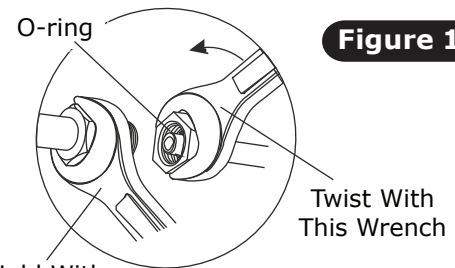
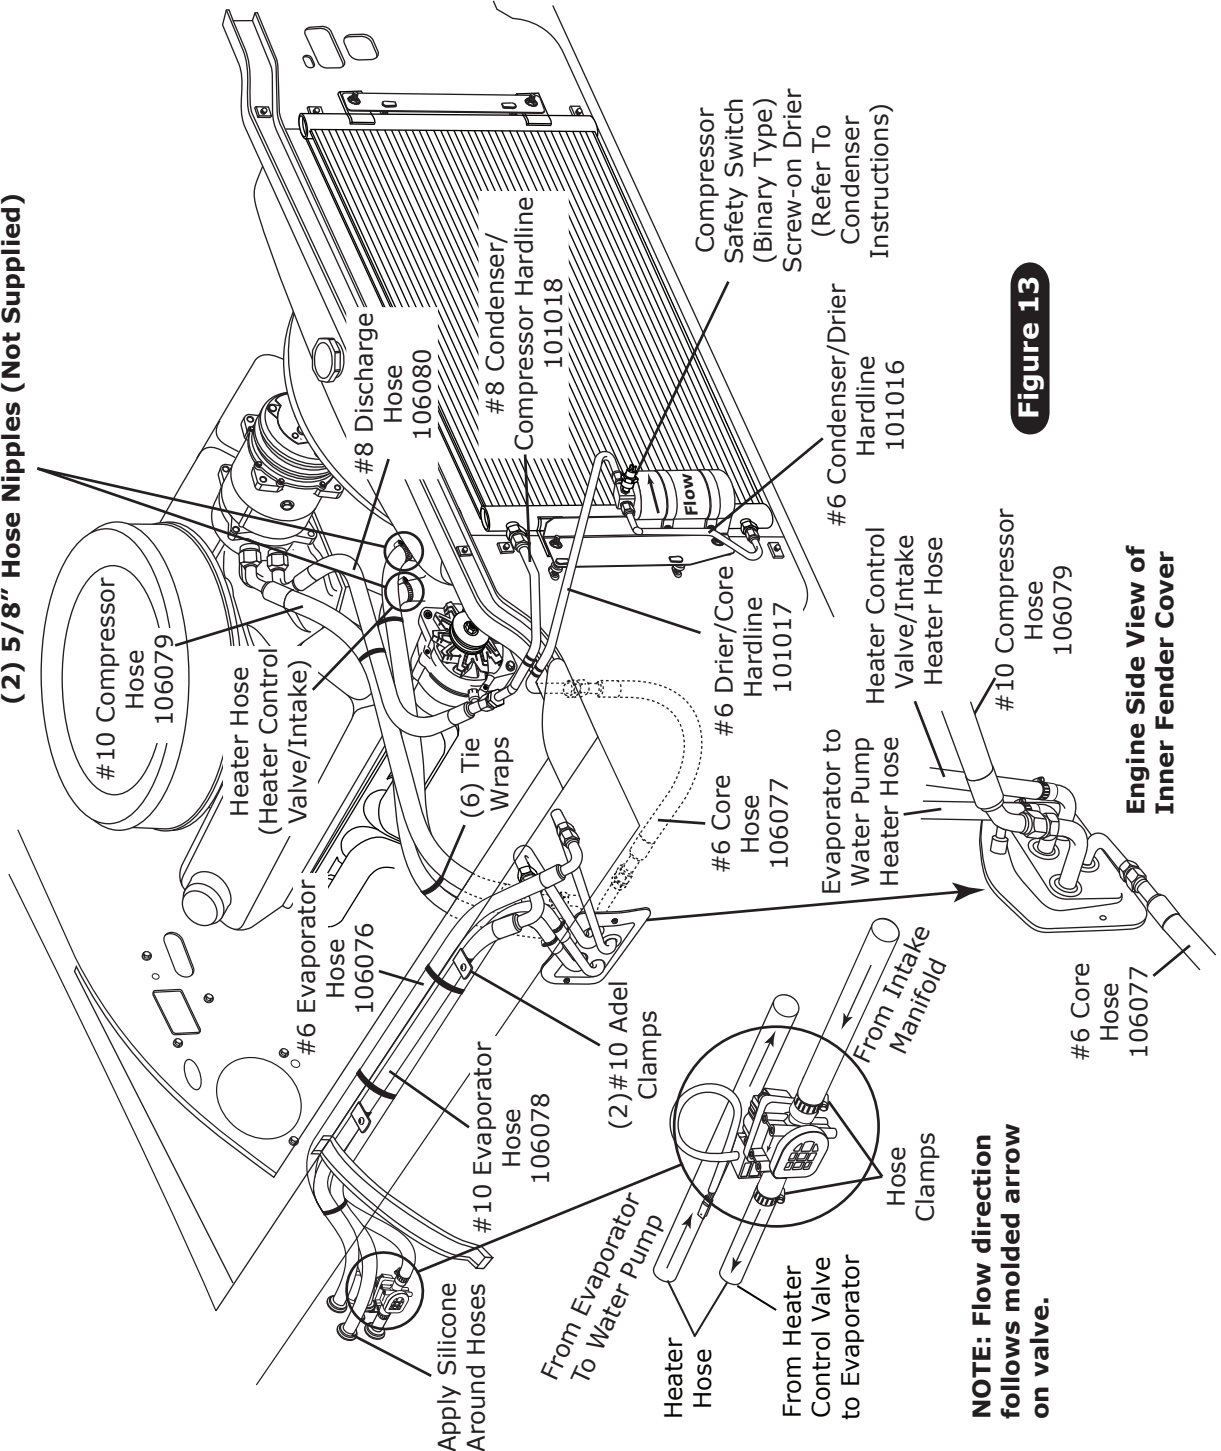

Figure 12
Figure 13
1. On a workbench, install evaporator rear bracket and heater hose fittings with properly lubricated O-rings (See Figure 6, Page 9, and Figure 12, Page 13).
1. Locate the #8 compressor A/C hose. Lubricate (2) #8 O-rings and connect the 90° female fitting to the #8 discharge port on the compressor. Then route the straight female fitting with R134a service port to the #8 condenser hardline coming over the core support. Tighten each fitting connection as shown in Figure 12, above.
2. Locate the #10 compressor A/C hose. Lubricate (2) #10 O-rings and connect the 45° fitting to the #10 suction port on the compressor. Route the 45° female fitting with R134a service port to the #10 hardline on the inner fender cap. Lubricate (2) #10 O-rings and connect the 90° female fitting in the wheel well to the #10 hardline on the inner fender cap. Then route the straight female fitting from the inner fender cap to the #10 fitting on the evaporator (See Figure 9a, Page 11, and Figure 13, Page 14). Tighten each fitting connection as shown in Figure 12, above.
3. Locate the #6 evaporator A/C hose. Lubricate (2) #6 O-rings and connect the straight female fitting to the #6 hardline coming over the core support from the drier. Route the straight female fitting to the #6 hardline on the inner fender cap. Lubricate (2) #6 O-rings and connect the 90° female fitting in the wheel well to the #6 hardline on the inner fender cap. Then route the 90° female fitting from the inner fender cap to the #6 fitting on the evaporator (See Figure 9a, Page 11, and Figure 13, Page 14). Tighten each fitting connection as shown in Figure 12, above.
1. In engine compartment, route a piece of heater hose from the water pump to the top heater fitting on the inner fender cap (See Figure 13, below). Secure using hose clamps.
2. In engine compartment, route a piece of heater hose from the intake to the bottom heater fitting on the inner fender cap (See Figure 13, below). Secure using hose clamps.
3. In wheel well, route a piece of heater hose from the top heater fitting on the inner fender cap to the top heater fitting of the heater core as shown in Figure 9a, Page 11, and Figure 13, below. Secure using hose clamps.
4. In wheel well, route a piece of heater hose from the bottom heater fitting on the inner fender cap to the bottom heater fitting of the heater core as shown in Figure 9a, Page 11, and Figure 13, below. Secure using hose clamps. **NOTE: Install heater control valve in line with intake manifold (pressure side) heater hose, and secure using hose clamps as shown in Figure 13, below. Also note proper flow direction.**
5. Apply a bead of silicone around each hose where it passes through the grommet in the wheel well (See Figure 13, below).